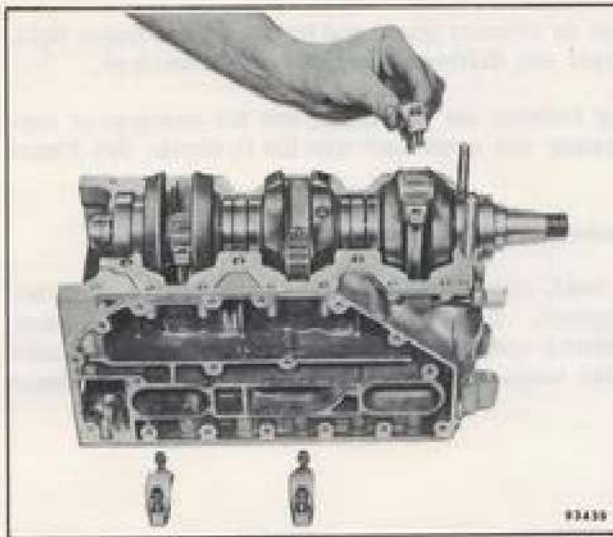
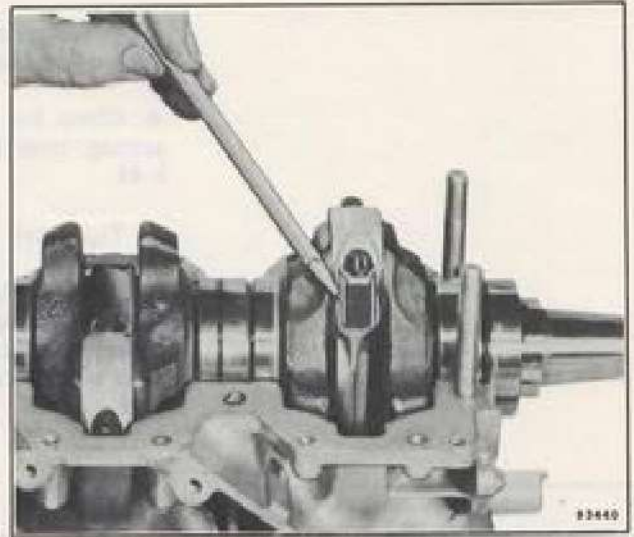

Figure 5-39. Installing Connecting Rod Caps
Figure 5-40. Rod and Cap Alignment
- f. With roller bearings in place, attach connecting rod caps with screws dipped in outboard lubricant. See Figure 5-39. Connecting rod caps are not interchangeable with those of other rods, neither may the caps of the same rods be turned end for end. To assist correct assembly, small raised dots are provided on matching sides of rod and cap. Draw a pencil over chamfered corners on both sides of rod to make certain that cap and rod are aligned at this point. If not aligned, chamfered corners can be felt with the pencil point. See Figure 5-40. Misalignment can be corrected by tapping cap lightly with a hammer and punch.